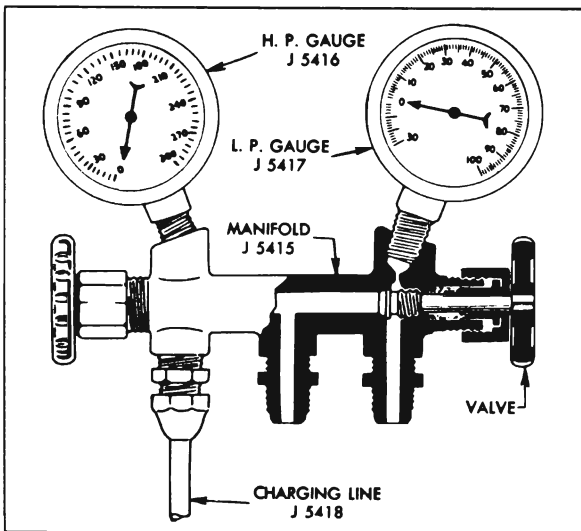

Figure 11-43—Pressure Gauge Set
2. Connect charging lines of Pressure Gauge Set (fig. 11-43) to gauge fittings of both valves, with both valves of Manifold J 5415 closed.